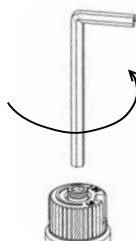

Fig. 2
- 10) Insert a 5/32" or 4mm Allen wrench into the hexagonal key-way of the screw (Fig. 2), rotate it counter-clockwise until it is free and extract it.